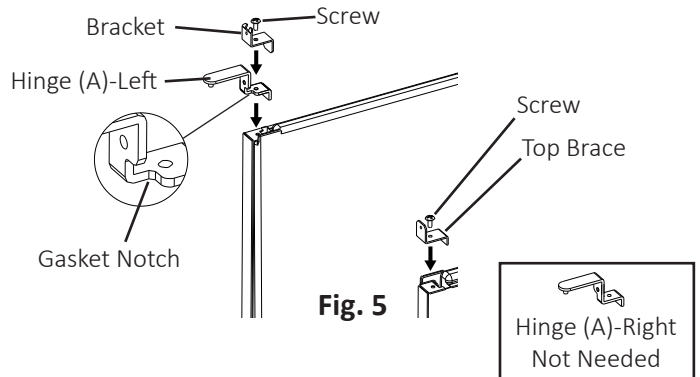

Fig. 5
c) Remove hinge (A)-right and the bracket from the right side of the appliance. Set aside hinge (A)-right; it is not needed. Remove the top brace from the left side. Fasten hinge (A)-left and the bracket to the left side and the top brace to the right side (See Fig. 5).